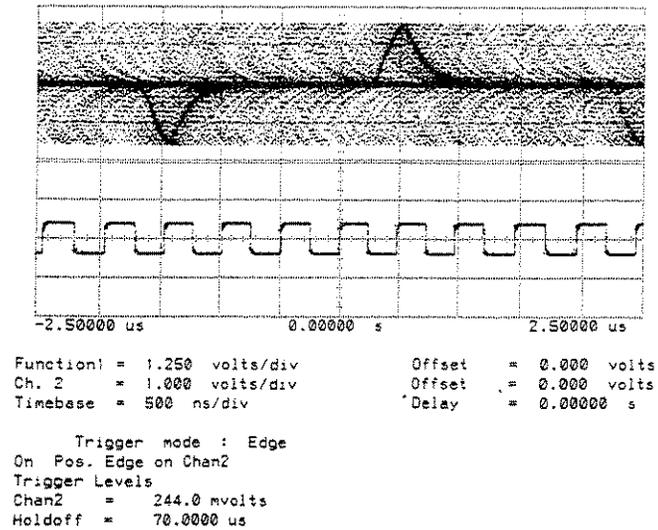

Figure 8-22 8UI p-p Jitter
25. Increase the Signal Source output from 0 Volts until the jitter on the TX DATA OUT waveform is 8 UI p-p i.e. when the pattern is seen to overlap as in Figure 8-22
28. Increase the Signal Source frequency without altering the output level until the observed jitter falls to 8 UI as shown in Figure 8-22. Check that this occurs at a frequency >3 kHz, typically >10 kHz.